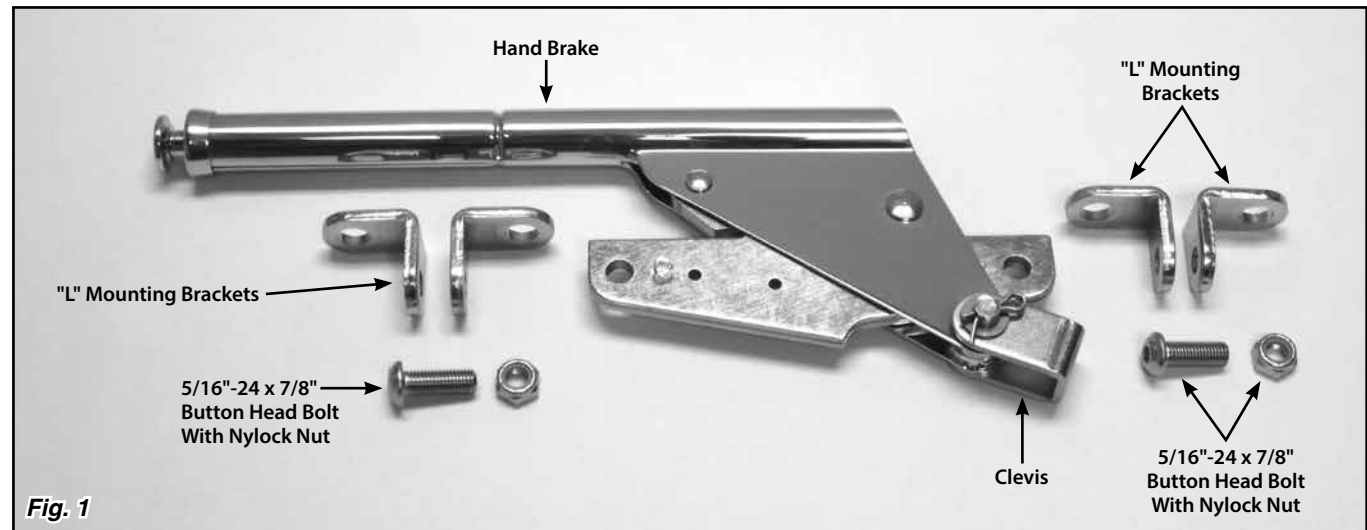
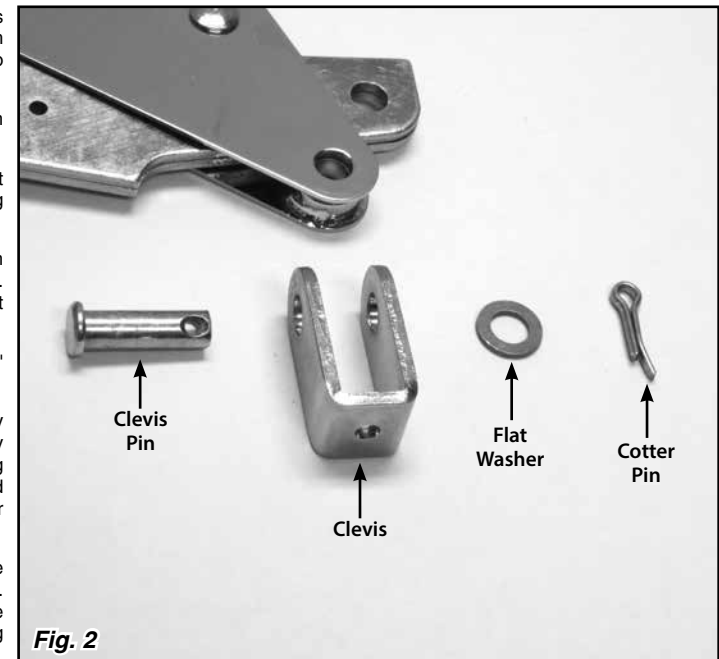

Fig. 1
Fig. 2
Refer to Fig. 1 and Fig. 2 for the component names.
Step 4: Remove the cotter pin and flat washer from the clevis pin and remove the clevis from the Hand Brake. **Fig. 2** Insert the Hand Brake into the slot you just cut.